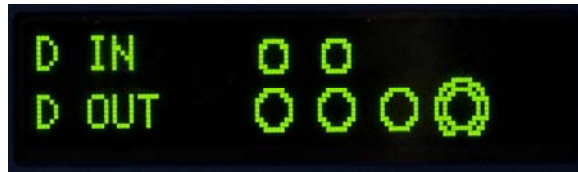

Figure 4-5: Discrete I/O Test Screen
- Press PRINT to continue to the diagnostic screen. When viewing the test screen, the input status will be shown at the top of the display and the output status will be shown at the bottom of the display (Figure 4-5). Focus is shown on Output #4 (far right) first.